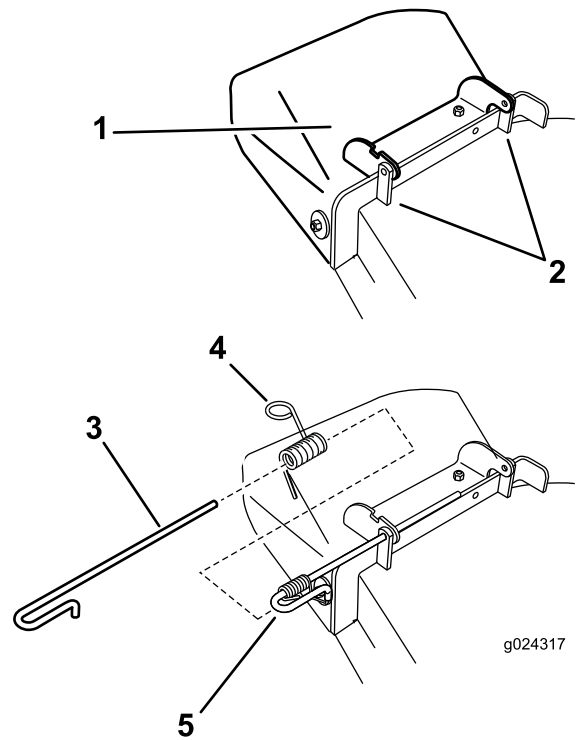

Figure 69
1. Remove the cotter pin from the end of the rod (Figure 69).
2. Disengage the spring from the notch in the deflector bracket and slide the rod out of the welded deck brackets, spring, and discharge deflector (Figure 69).
3. Position the new discharge deflector with the bracket ends between the welded brackets on the deck (Figure 69).
7. Install the cotter pin into the end of the rod (Figure 69).